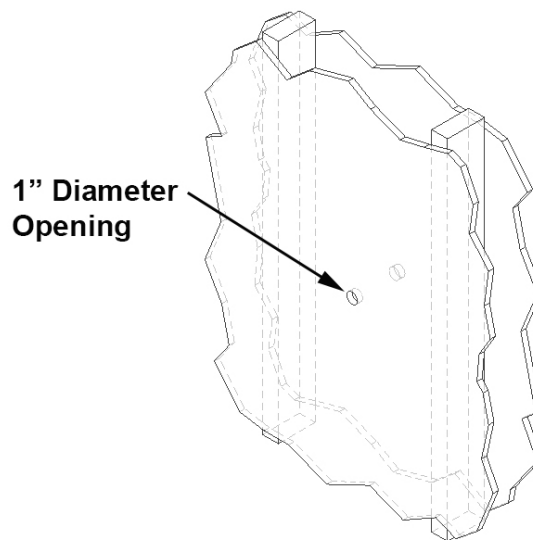

Figure 1 - Cut 1" opening through wall
Step 2 - Once an acceptable location has been identified, cut an approximate 1" diameter hole through both wall layers (use proper equipment for the type wall surface you are cutting through, for example, a spade drill or drywall saw can be used to cut a hole in drywall). The *Quick Disconnect Plate* should be located in the room in which the *IC Sentinel* unit is placed. **NOTE: Follow safety warning and verify what is behind the wall before cutting** (Ref. Figure 1).